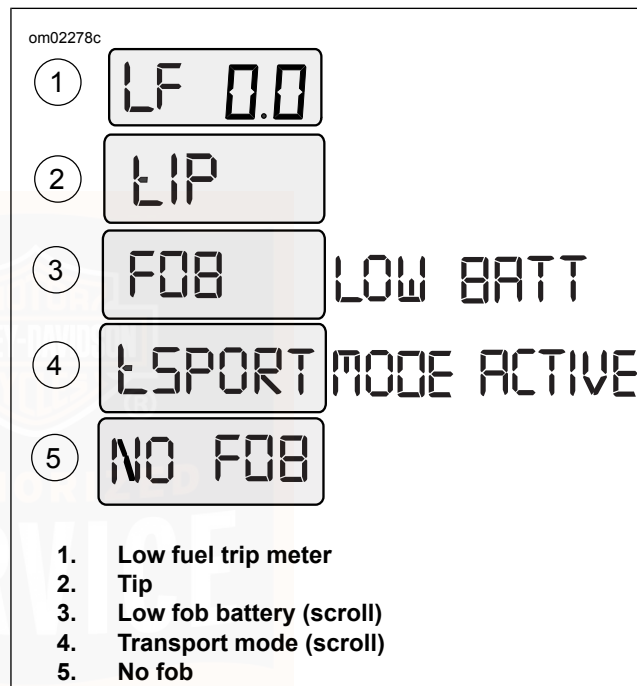

Figure 22. Odometer Window Messages
Low Fuel Trip Meter (LF): See Figure 22. When the low fuel indicator illuminates in the speedometer face, a low fuel
Tip (tiP): See Figure 22. When the motorcycle is tipped over, the work "tiP" (2) appears in the odometer window. The engine does not restart until the ignition is reset.
Fob Low Battery (FOB LOW BATT): See Figure 22. If the battery in the security fob is low, the message "FOB LOW BATT" (3) will scroll in the odometer window. Change the fob battery. See Security System Fob (Page 47)
Transport Mode Active (tSPORT MODE ACTIVE): See Figure 22. The security system is in the transport mode when the "tSPORT MODE ACTIVE" message (4) will scroll in the odometer window. See Transport Mode (Page 55).
No Fob (NO FOB): See Figure 22. When the system cannot communicate with the fob, this message (5) is displayed. See Troubleshooting (Page 56).